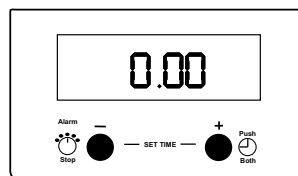
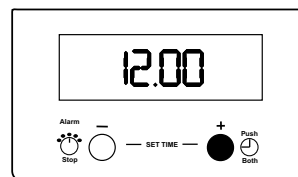

Fig.2
Fig.3
Press buttons (1) and (2) together. Release buttons, 0.00 will appear in the display as Fig. 2. **Within 5 seconds** press button (2), 12.00 will show in the display as Fig. 3.